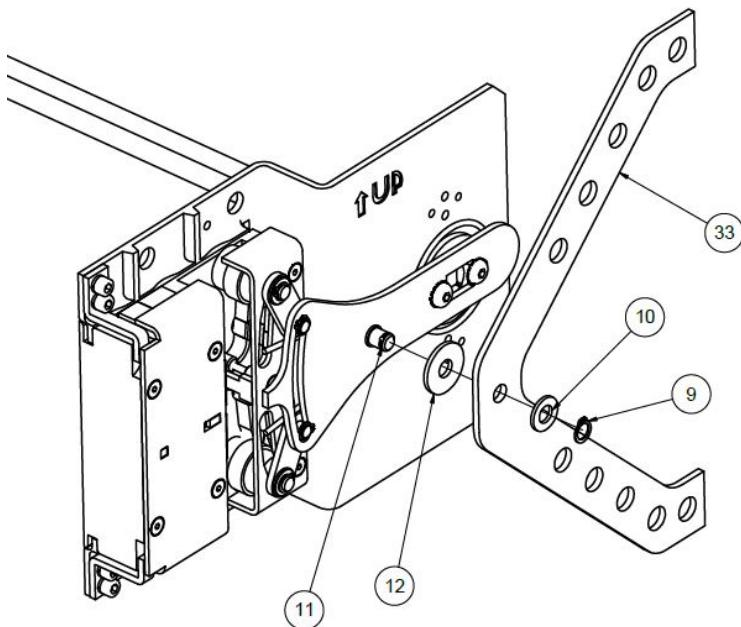

Figure 13: Placing the multi-position attachment
As shown in Figure 13, simply insert a DIN 9021 M12 nylon washer (12) and next the overspeed governor anchor (33) on the pin extending from the pull pivot (11), securing it with a DIN 125 M10 flat washer (10) and with a DIN 471 $\phi=10$ mm elastic security ring for axes (9), it also has a pin hole in order to be able to place a DIN 94 $\phi= 2$ mm split pin to replace the security ring.